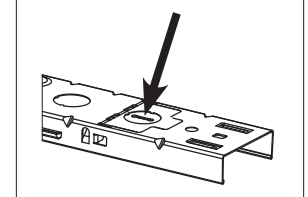

Fig. 4
channel (B) for the power supply wiring. To remove, simply place a flathead screwdriver on the knock out and strike it sharply with a hammer (Fig. 1). The slug may then be removed with pliers. If continuous row mounting, simply fold the tabs on the mounting channel upright (Fig. 2) ensuring they are flush with the back of the channel leaving no gap. The knockout on the folded tab may not be used once folded in the up position (Fig. 3). Do not fold the first and last tab in a row. (Fig. 4). Use knockouts and do not fold up if row mounting with gaps between fixtures.